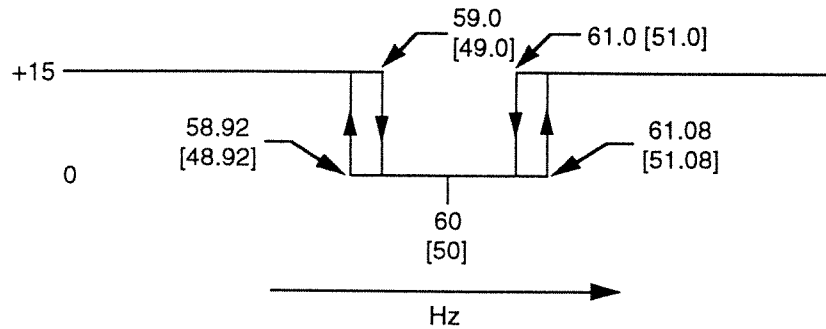

FIGURE 2 Frequency Indication Signal at R117
2. Increase the generator frequency from 60 [50] Hz. The signal should go “high” at approximately 61.08 [51.08] Hz (“high” indicates greater than ± 12 V dc) as shown in Figure 2. Slowly reduce the generator frequency. The signal should go “low” at approximately 61.0 [51.0] Hz ± 0.02 Hz (“low” indicates less than 2 V dc).